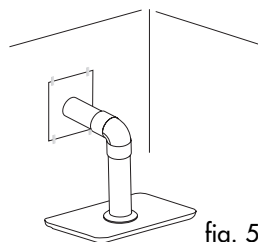

fig. 5
- fix the drilling template with adhesive tape or a suitable alternative (fig. 5).
- fix the wall flange (I) to the wall with the wall screw and fixing plug supplied. Put the stove back in position and fit the flue onto the flange.